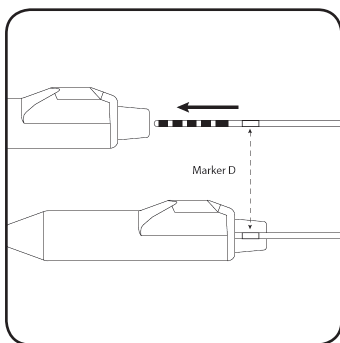

Figure 18. Insert lead fully into the Percutaneous extension connector block.
4. Insert the lead into the percutaneous extension connector block until fully seated and the lead cannot be inserted further. Marker D on the lead should be inside the percutaneous extension strain relief (**Figure 18**). The retention sleeve on the tined lead should be positioned under the percutaneous extension setscrew.